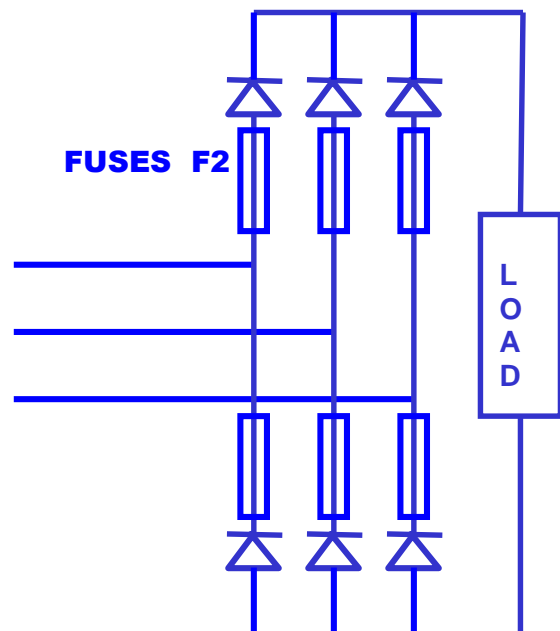

Figure 5 : protection with 6 fuses
- or fitted in series with each diode as per figure 5 (6 fuses F2).